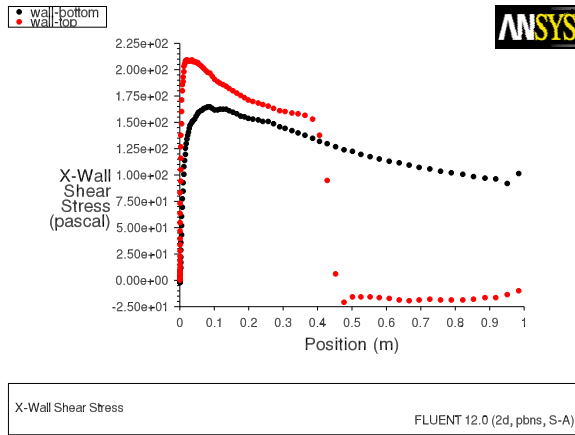

Figure 3.14: XY Plot of x Wall Shear Stress
4. Plot the x component of wall shear stress on the airfoil surface (Figure 3.14).
As shown in Figure 3.14, the large, adverse pressure gradient induced by the shock causes the boundary layer to separate. The point of separation is where the wall shear stress vanishes. Flow reversal is indicated here by negative values of the x component of the wall shear stress.